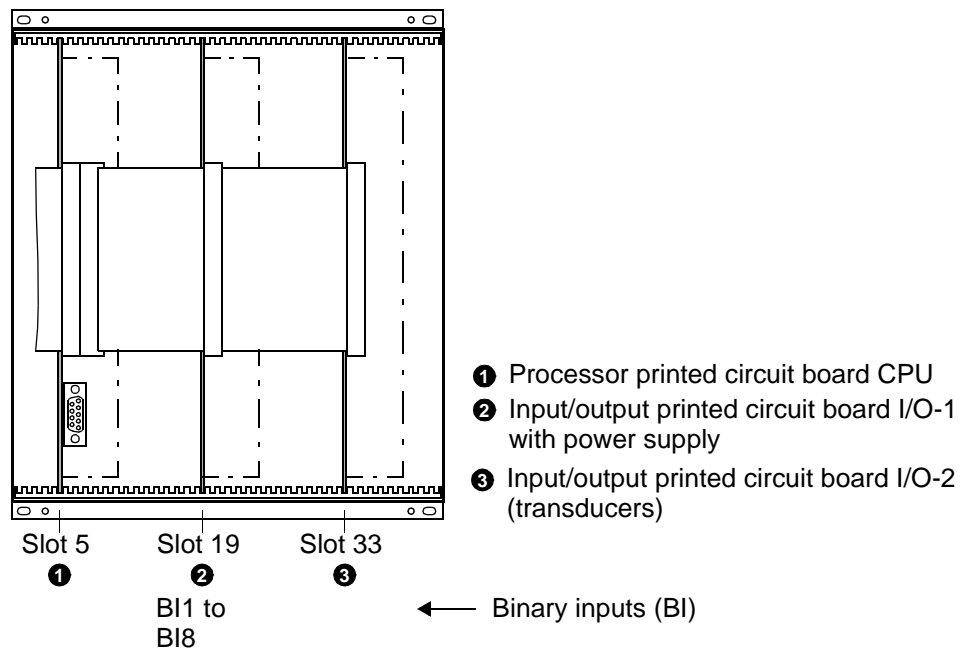
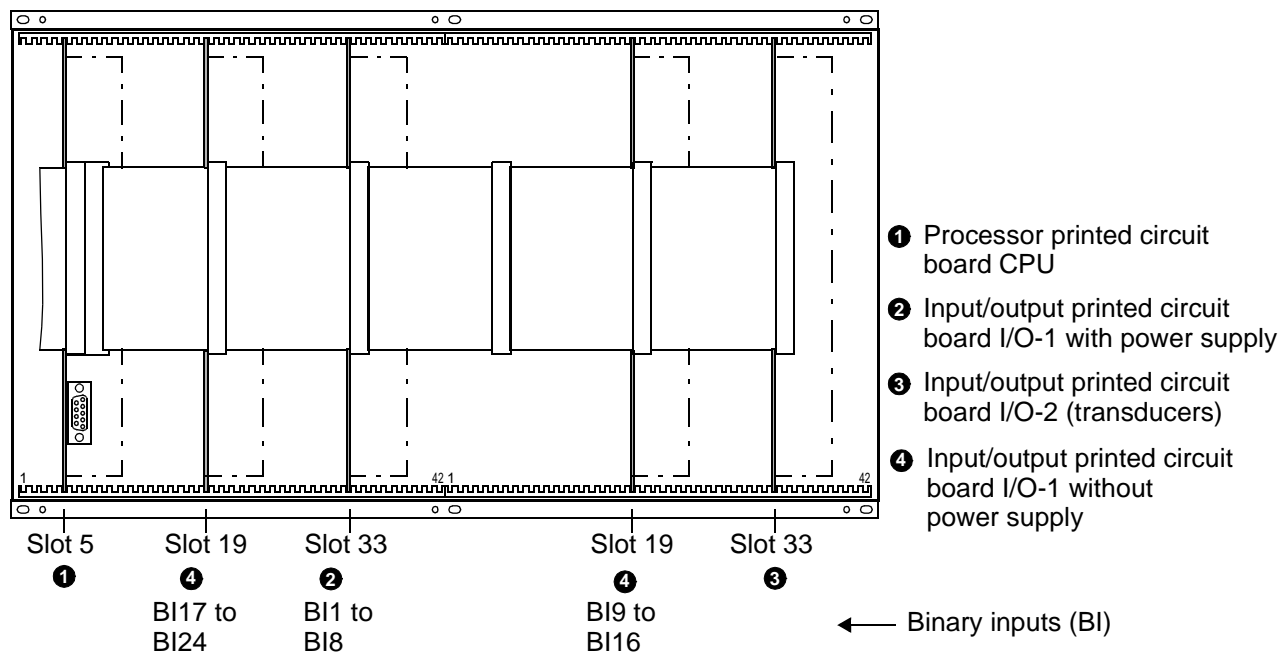

Figure 8-7 Front view of the device with housing size  $1\frac{1}{2}$  after removal of the front cover (simplified and scaled down)
Figure 8-8 Front view of the device with housing size  $1/1$  after removal of the front cover (simplified and scaled down)
- ☐ Refer to Figures 8-7 and 8-8 for the physical arrangement of the printed boards.
- ☐ The order of the boards for housing size  $1\frac{1}{2}$  is shown in figure 8-7, for housing size  $1\frac{1}{4}$  refer to figure 8-8.
The allocation of the binary inputs to the module slots is shown in Figure 8-7 for devices with housing size  $1/2$  and in Figure 8-8 for the devices with housing size  $1/1$ .
- ☐ Carefully insert the boards into the case. The installation locations of the boards are shown in Figure 8-7 and 8-8.